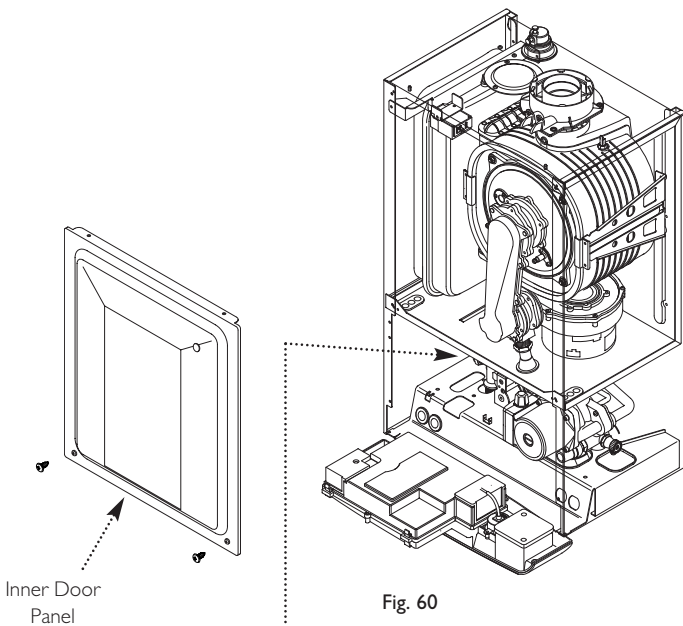

Fig. 60
6. Remove the screws securing the inner door panel. Lift the panel slightly to disengage it from the studs on top of the case (Fig. 60).